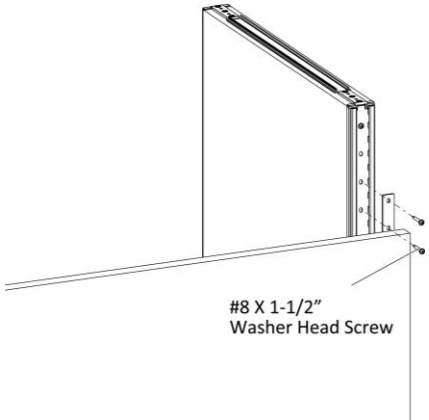

Figure 4
- Position the gallery panel with a female bed fitting bracket and standard panel to create a 90-degree angle, (Figure 4).